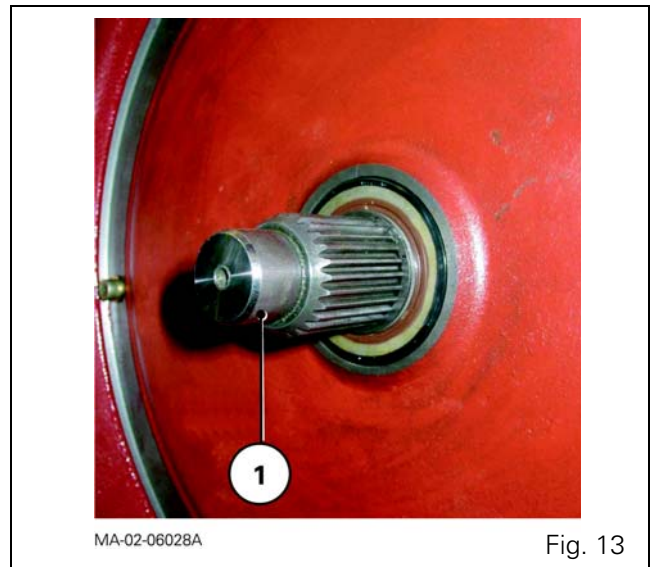

Fig. 13
31. Lightly smear the splines of mainshaft (1) (Fig. 13) with AS767 graphite grease or equivalent.